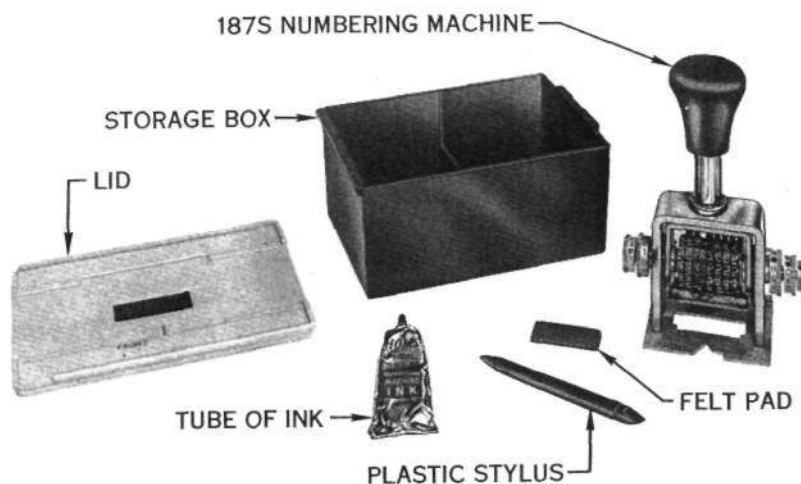

Fig. 1 - HOMS 187S Numbering Machine
2.01 The HOMS Model 187S numbering machine consists of the following major parts (Fig. 1):